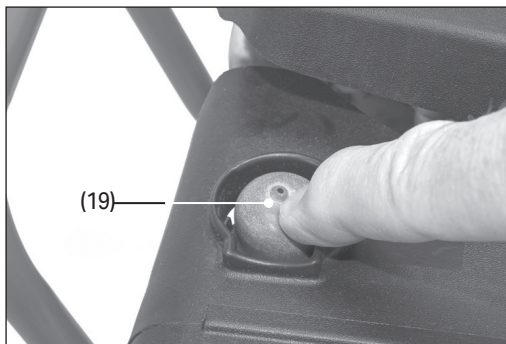

Fig. 18
3. Press the primer bulb (19) three times to prime the motor (Fig. 18).